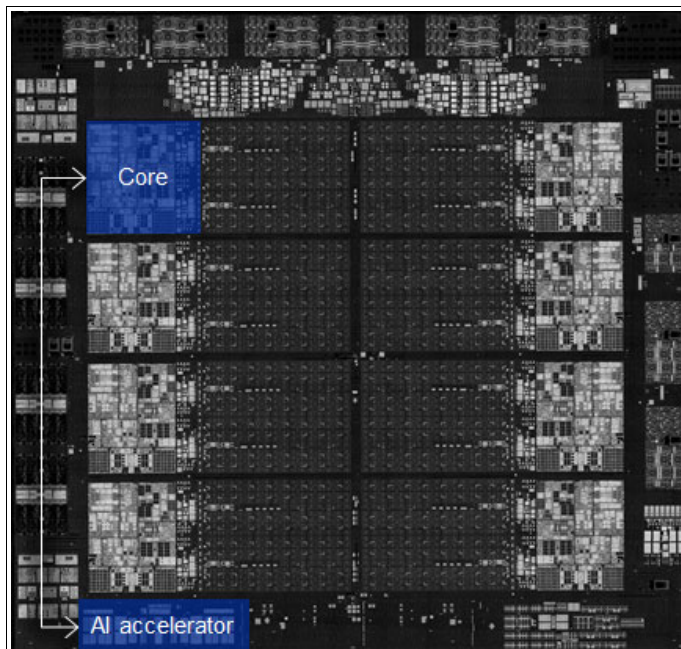

Figure A-1 IBM z16 Processor chip: AIU location
In August 2021, IBM announced a new generation of IBM Z processor, Telum, with a new Artificial Intelligence (AI) accelerator (see Figure A-1). This innovation brings incredible value to the applications and workloads that are running on IBM Z.